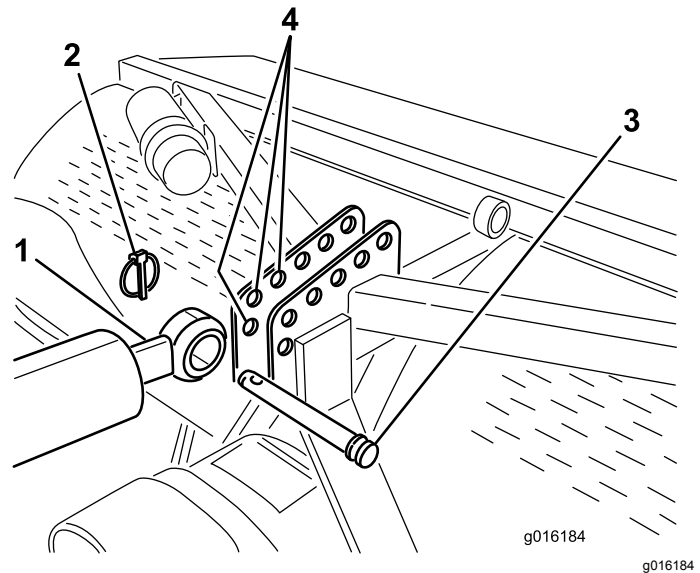
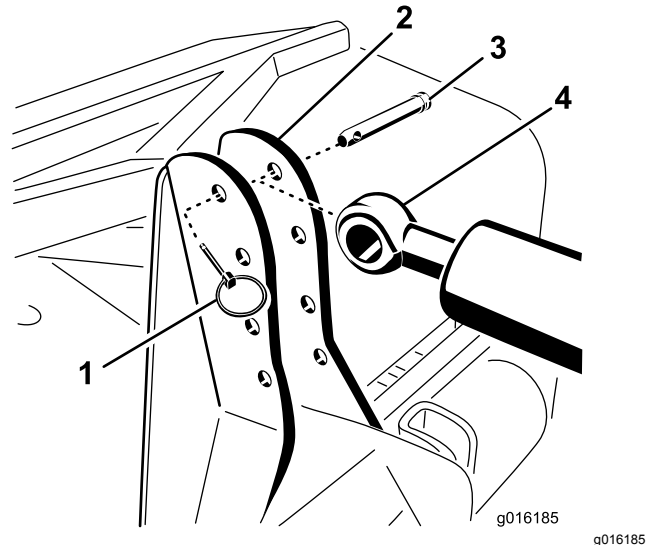

Figure 6
Figure 7
- Secure the rod end of hydraulic top link to the most forward hole possible in the aerator bracket with link pin and lynch pin (Figure 6 or Figure 7).